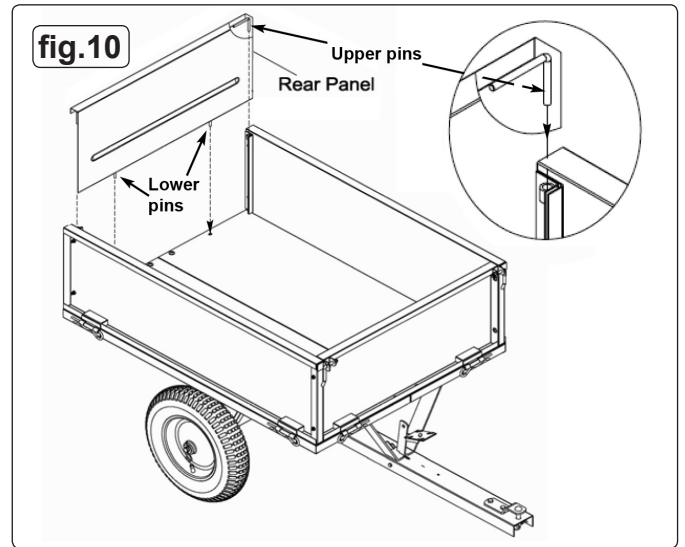

fig.10
- 5.9.1 Slide the rear panel down into the slotted channels at the rear of each side panel. At the bottom edge of the rear panel are two pins which must pass through holes in the base panel. At the top corners of the rear panel are two more pins that must pass into small tubes in the corners of the side panels in order to lock the panels together. See fig.10.